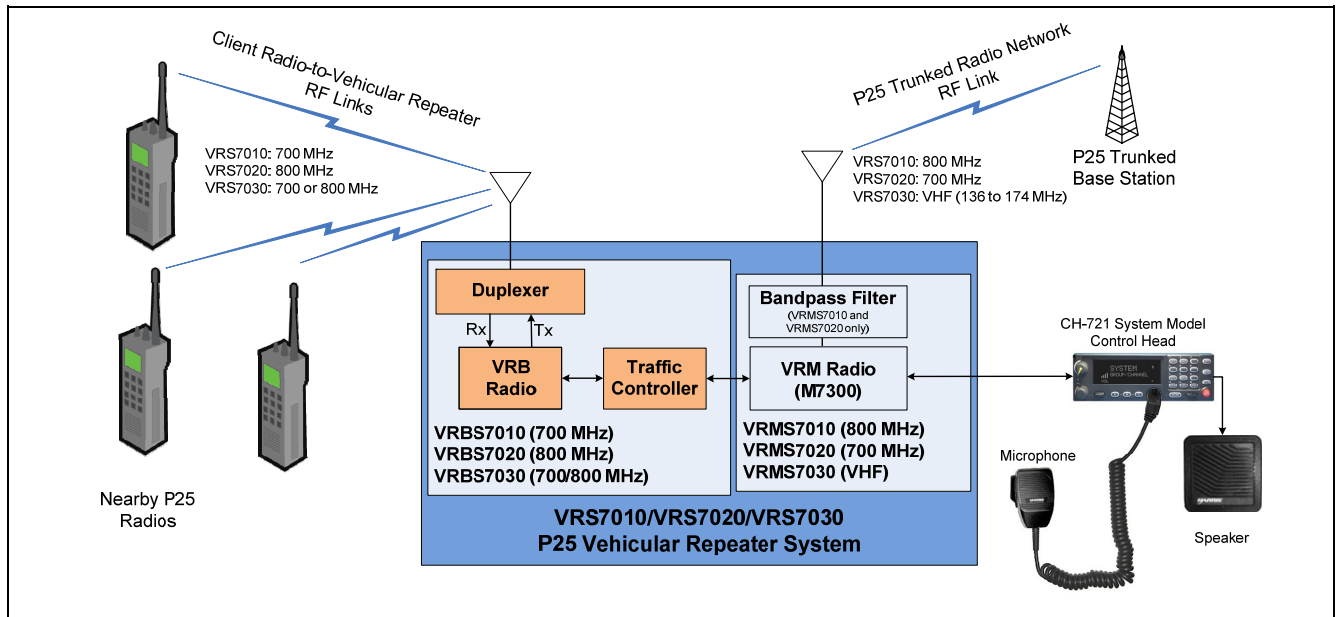

Figure 3-1: Simplified Block Diagram of Extended Network Coverage Mode
The VRS7000 series of P25 cross-band vehicular repeaters includes the three (3) distinctly different P25 Vehicular Repeater Systems: the VRS7010, the VRS7020, and the VRS7030. Each repeater has different radio frequency bands upon which it operates on. The RF bands are included in Figure 3-1 below.
The system that provides the RF link for nearby P25 radios when the VRS7000 is operating as a P25 vehicular repeater is called the Vehicular Repeater Base System (VRBS). As illustrated in Figure 5-2 on page 30, the VRBS is formed by a Vehicular Repeater Base (VRB) radio, a Traffic Controller module, and a duplexer. The VRB radio is the transceiver for the RF link to nearby P25 radios. See Figure 3-1 below. The Traffic Controller section interfaces the VRB radio to the VRM radio. The duplexer allows the VRB radio to transmit and receive via a single vehicle-mounted antenna.
When the VRS7000 is operating in the extended coverage vehicular repeater mode, it provides the network extension interface that enables nearby P25 radios to access the P25 radio network through the VRS7000. This mode's name is typically abbreviated "XCOV vehicular repeater mode," "XCOV mode" or simply "VR mode." Radio coverage for nearby P25 radios is extended because VRS7000's high-performance mobile antenna system and higher transmitter output power used to access the P25 network. See Figure 3-1. When a nearby P25 radio is communicating through the VRS7000, it is considered "connected" to and a "client" on the VRS7000. The VRS7000 cannot function as a standard mobile radio when it is operating in this mode.